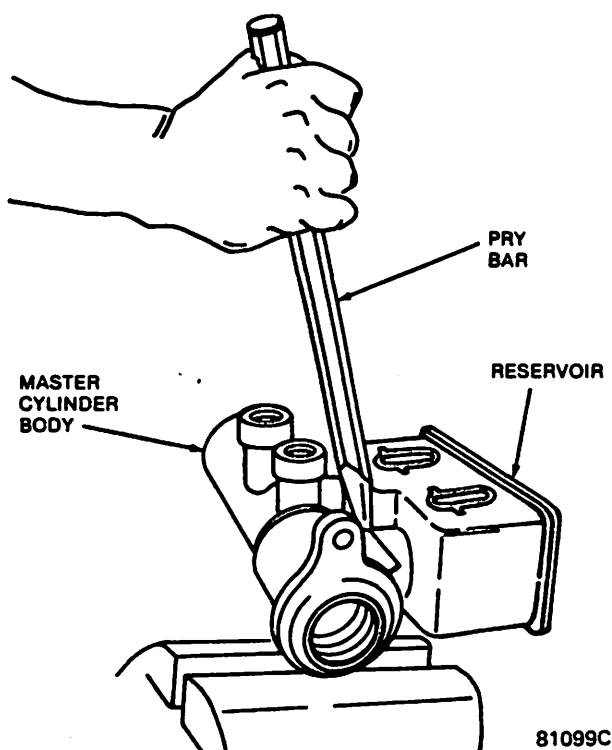

Fig. 2G-9 Removing Master Cylinder Reservoir—
(1) Remove cover and diaphragm seal and drain fluid from master cylinder. Mount master cylinder in vise.
A. *Remove reservoir using pry bar (fig. 2G-9).*
(2) On models with nonpower brakes, remove boot (figs. 2G-10 and 2G-11).
(3) Push primary piston inward using wood dowel or push rod and remove snap ring from groove in master cylinder bore.
(4) Remove primary and secondary piston assemblies from cylinder bore. Air pressure applied through compensator port in front reservoir will aid in removal of secondary piston assembly.
(5) Remove piston seal and piston cups from secondary piston only. It is not necessary to disassemble primary piston as piston is supplied as complete assembly in repair kit.
(6) Clean and inspect master cylinder. Replace unit if bore is severely scored, corroded, or pitted, or if body is cracked, porous, or has sustained other damage. Check compensator and bypass ports in reservoirs. If plugged or dirty, open them using brake cleaning solvent and air pressure only. Never use wire to open ports as wire may create burr in port and push burr into cylinder bore.
(7) Inspect tube seats in outlet ports. Replace seats only if cracked, scored, cocked in bore, or loose. If replacement is necessary, remove seats as follows: